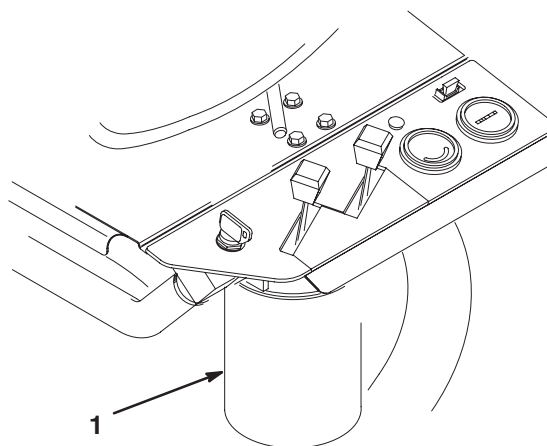

Figure 42
- Clean the area around the filter mounting area (Fig. 42). Place a drain pan under the filter and remove the filter.